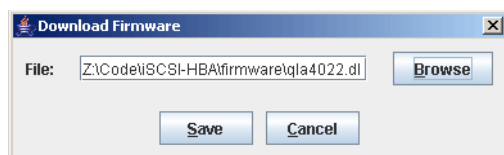

Figure 21-32 SANsurfer - Download firmware
10. Select the adapter firmware update file from the location where it was extracted to in step 2 on page 499. Click **Save**. See Figure 21-32.